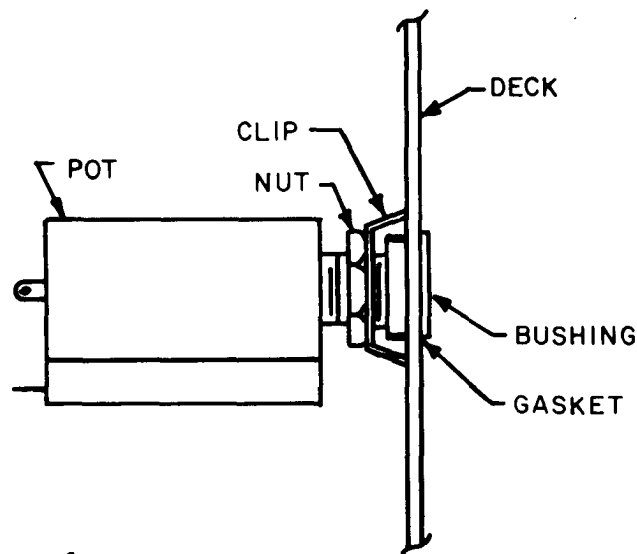

Figure 4-27. CAL ADJ Potentiometer Installation Detail
(1) Open trimmer assembly per paragraph 4-10a.
(2) Mark and unsolder wires from potentiometer.
(3) Relieve tension on pot hook clip (fig. 4-27) by turning nut on potentiometer shaft.
(4) Unscrew potentiometer shaft from panel bushing and remove potentiometer.
(5) Install CAL ADJ potentiometers per paragraph 4-16.
a. Inspect condition of pot hook gasket and o-ring (fig. 4-27). If worn or deteriorated, replace old pot hook with new pot hook.